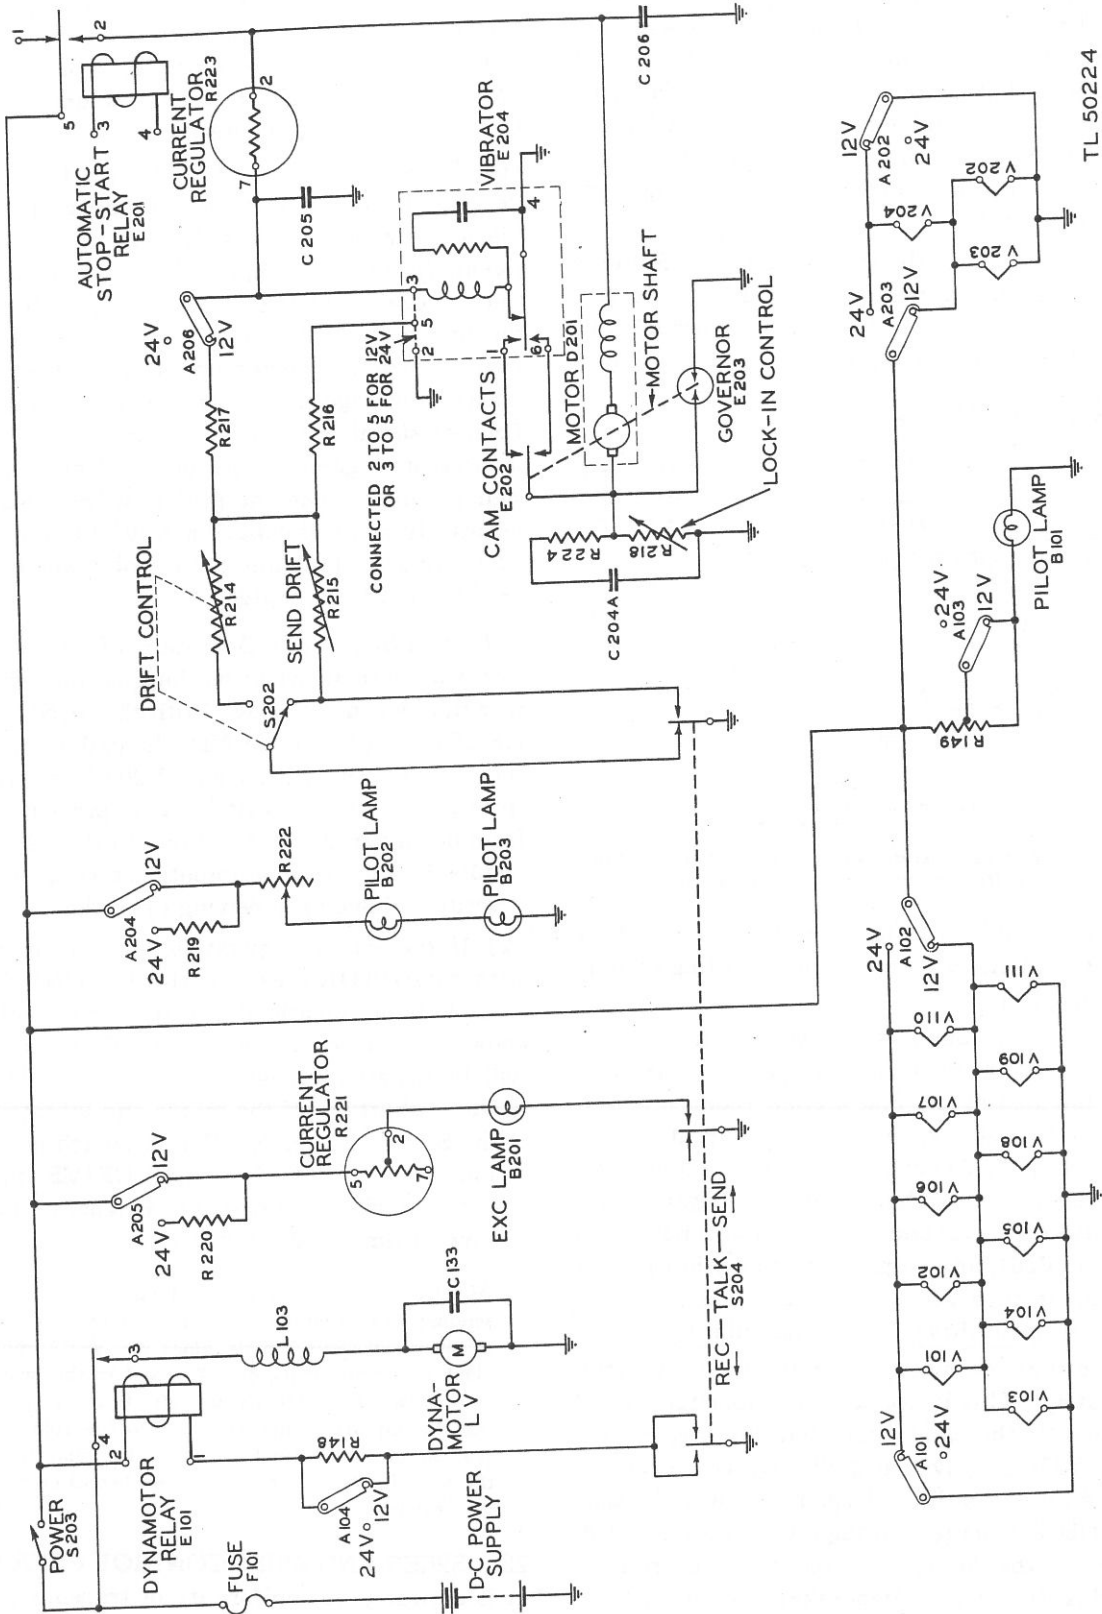
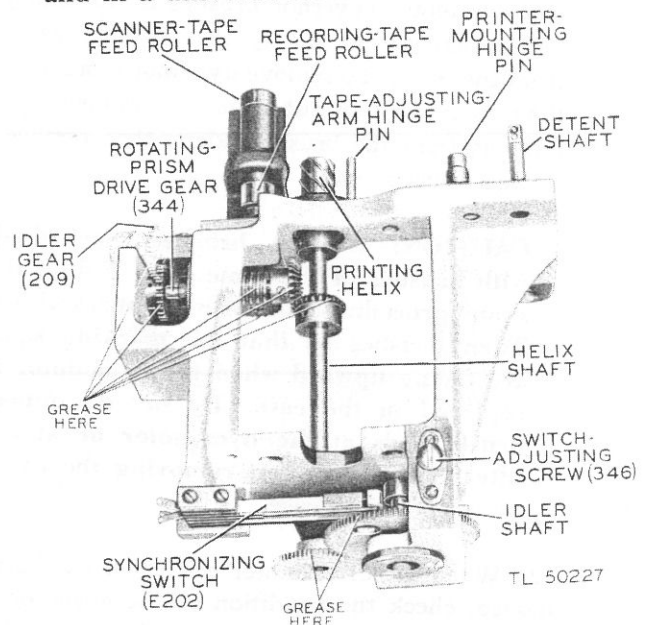
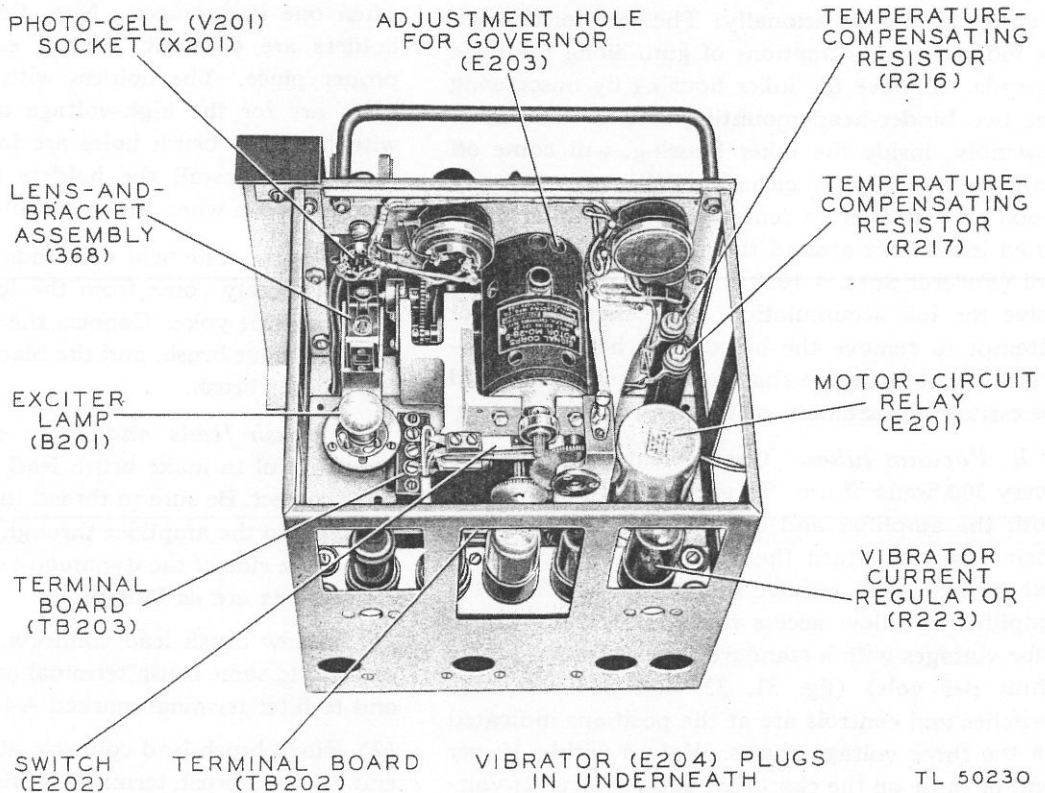

Figure 24—Low-voltage circuit, schematic diagram
Figure 27—Gear-housing assembly
Figure 30—Recorder-scanner top (open view)
the power circuit to the recorder-scanner drive motor (D201) and vibrator (E204), putting them in action (fig. 24).
b. Control of the motor speed depends primarily upon the action of the cam switch (E202) and the vibrator (E204). D-C voltage is applied to the motor (D201) and the vibrator (E204) through the contacts of a relay (E201) (fig. 24), the current through the vibrator being kept constant by a current regulator tube (R223). The current through the motor goes to ground, partially through the lock-in control (R224, C204A and R218) and partially through the cam-switch-and-vibrator circuit. The motor governor, E203, also functions in this circuit.
i. Resistors R216 and R217 (fig. 30), in the drift-control circuit (fig. 24), are special copper-wire-wound units with temperature coefficients designed to nullify the effects of the heating up of the equipment during normal operation. As the vibrator warms up, its frequency tends to change. The resistors (R216 and R217), warming up at the same time as the vibrator, change their resistance enough to cause an automatic drift-control effect that tends to hold the vibrator frequency constant.
23. LOW-VOLTAGE CIRCUIT. The low-voltage circuit (fig. 24) is for the most part self-explanatory. The battery or rectifier supplies a d-c voltage for tube filaments, for pilot lamps, for the optical-system exciter lamp, and for operating the vibrator, the drive motor, and the dynamotor. Connected in series with the exciter lamp (B201) is a ballast tube (R221) which regulates current flow through the lamp. For proper operation of the photo-cell (V201) circuit, the current through the exciter lamp (B201), and hence the brightness of this lamp, must be kept reasonably constant.
(1) To lubricate gear teeth, remove the recorder-scanner from its case by turning the two slotted bolts at the back of the unit counterclockwise and pulling the chassis out at the front. Clean all gear faces with a lint-free cloth moistened with carbon tetrachloride to remove accumulated grease and dirt. After cleaning, apply a small amount of gear lubricant to all gear teeth (fig. 27). For temperatures above 0° F, use Grease, General Purpose No. 2, U S Army Spec 2-108. For temperatures between 67° below zero and 0° F, use Grease, Lubricating Special, U S Army Spec AXS-637.
(2) To oil the printer bearings, remove the detent knob and printer cover and add a few drops of
(3) Green brush lead connects at dynamotor output end to brush terminal near outside edge of dynamotor case, and to filter terminal marked No. 2.
(4) Red brush lead connects at dynamotor output end to brush terminal near filter unit, and to filter terminal No. 1.
(5) Red lead from amplifier connects to filter terminal marked B+.
(6) Brown lead from amplifier connects to filter terminal marked A+.
(7) Black lead from amplifier connects to filter terminal marked GRD.
(8) Jumper lead connects between filter terminals marked GRD and B—.
b. If the drive-motor leads have been disconnected from their terminal board (marked TB203 MOTOR), reconnect the leads as follows: (See fig. 30.)
(1) White lead (No. 1) to terminal No. 1.
(2) Green lead (No. 2) to terminal No. 2.
(3) Black lead (No. 3) to terminal No. 3.
30. GEAR-ASSEMBLY SERVICING. *a.* To replace parts of the gear-housing assembly, it may be necessary to remove the entire assembly from the recorder-scanner front panel. Proceed as follows: (See fig. 27 and 29.)
(1) Remove the printer detent knob and housing.
(2) Remove the printer unit by taking off the collar (227) and spring (226) and sliding the unit from its shaft.
(3) Remove the tape-reel front cover, which is held in place by two screws.
(4) Remove the inker housing and inker assembly.
(5) Loosen the eight nuts holding the front panel in place as far as possible without removing them.
(6) Loosen the setscrew on the collar (218) holding the tape adjusting arm (217) in place, and remove the collar, arm, spring (219), and eccentric (216). Be careful not to lose any of these small parts.
(7) Remove the drive motor from its place on the gear housing, if the motor has not been removed.
(8) Remove all tubes, relay E201, and exciter lamp B201.
(9) The gear housing is held in place by two standard screws and a square-headed bolt (215). Remove the nuts and washers from these bolts, and then remove the gear housing from the recorder-scanner. Be careful not to damage any parts of the unit.
31. CONTACT-POINT SERVICING. If contact points of the drive-motor governor, the cam-operated synchronizing switch, or the vibrator become badly pitted after long operation, replacements may be necessary. The drive-motor governor (E203), the cam switch (E202), and the vibrator (E204) each must be replaced as a unit (fig. 30). Adjust points and the drift control after replacements are made (par. 37 and 38).
32. OPTICAL-SYSTEM SERVICING. If it becomes necessary to remove the optical system for servicing, first remove the recorder tape chute by loosening the clamp inside the tape-reel cover, and pulling out the chute. Then remove the prism-drive-gear front cover (held in place by two screws), and disconnect the wires to the photo-cell and the exciter lamp (fig. 30). Remove the exciter lamp and the two fillister-head screws holding the optical assembly to the front panel of the recorder-scanner, and carefully remove the assembly through the front of the panel. Replace items requiring special handling as follows:
a. Remove the motor-starting relay (E201) from its socket (fig. 30).